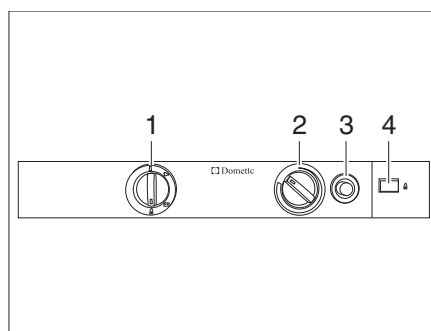

Fig. 318 Operating controls for the refrigerator (Dometic 8 series)
- Set the energy selector switch (Fig. 318,1) to "🔥".
- Press the control knob (Fig. 318,2), turn it to the highest level and hold it down. Wait until gas gets into the burner.
- Press the gas ignition button (Fig. 318,3) and keep it pressed. Ignition will take place automatically.
- Keep gas ignition button (Fig. 318,3) pressed down until the flame indicator (Fig. 318,4) becomes green and then release it.
- Keep the control knob (Fig. 318,2) pressed for another 10 to 15 seconds, then release it.
- Set the energy selector switch (Fig. 318,1) to "⏻".
- Use the control knob (Fig. 318,2) to adjust the refrigerating temperature.